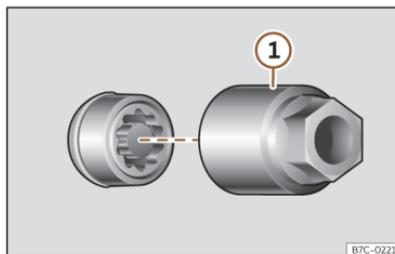

Fig. 199 Anti-theft wheel bolt with cap and adapter.
- Insert the special adapter >>> **Fig. 199** ① (vehicle tools >>> page 270) onto the anti-theft wheel bolt and push it on as far as it will go.